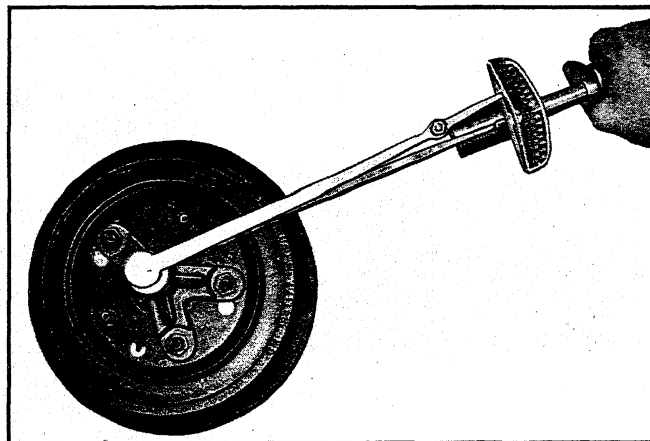

Fig. 97—Measuring Positraction Rotating Torque
2. Attach Adapter J-5748 to axle shaft flange and install a 1/2-13 bolt into adapter (fig. 97).